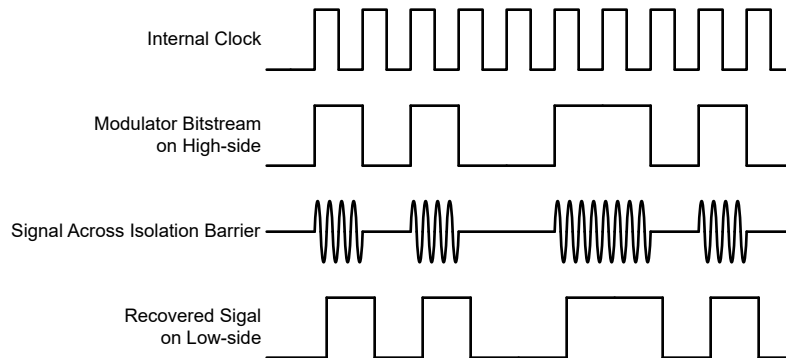

图 8-1. OOK-Based Modulation Scheme
The AMC1300 uses an on-off keying (OOK) modulation scheme, as shown in 图 8-1, to transmit the modulator output bitstream across the SiO₂-based isolation barrier. The transmit driver (TX) shown in the Functional Block Diagram transmits an internally generated, high-frequency carrier across the isolation barrier to represent a digital *one* and does not send a signal to represent a digital *zero*. The nominal frequency of the carrier used inside the AMC1300 is 480 MHz.